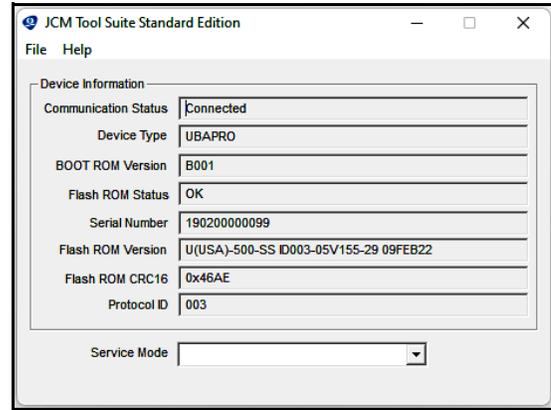

Figure 2 JCM Tool Suite Standard Edition v1.52.1.0 UI
**Answer:** The JCM Tool Suite Application (**Figure 2**) has been updated to Version 1.52.1.0, and includes: